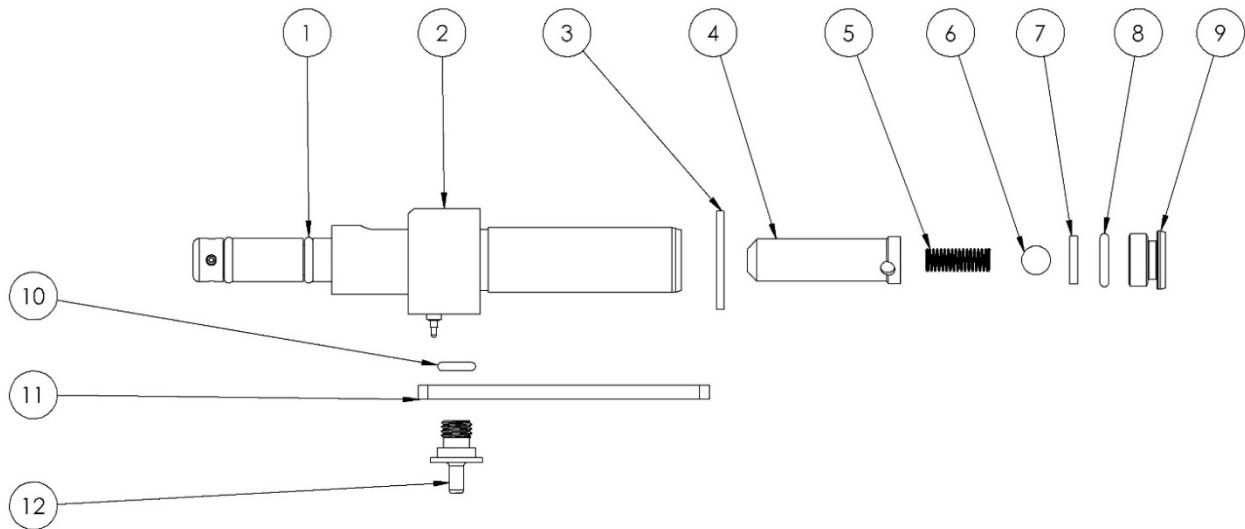

Figure 2: Charge Chamber Assembly
- Remove the double seal cap (Figure 2, #1) using a thick blade screwdriver.
- Use a small pick or screwdriver to remove the 005 O-ring (Figure 2, #2) and double seal spacer (Figure 2, #3). Inspect the O-ring and replace if any damage/wear is present.
- Use a small pick or screwdriver to remove the 007 O-ring (Figure 2, #4). Inspect the O-ring and replace if any damage/wear is present.
- Invert the magazine and allow the double seal valve (Figure 2, #5) and compression spring (Figure 2, #6) to drop free. Inspect the spring and replace if any damage/wear is present.
If a leak is experienced when the magazine is inserted into the weapon, and the leak is not coming from the magazine, then items #7, #8, and #10 in Figure 2 may be leaking and in need of replacing. If it is determined that a leak is occurring within the recoil kit, follow the steps below. If applicable, remove the recoil kit from the weapon prior to proceeding.
- Use a 5/32 Allen Wrench to remove the Charge Chamber Cap (Figure 2, #9).
- Use a small pick to remove the 011 Charge Chamber End Cap O-ring (Figure 2, #8) and the Charge Chamber Seal (Figure 2, #7). Inspect both items and replace if any damage/wear is present.
Insert (Figure 2, #6, #5, #4) to drop free. Replace the compression spring if any wear or damage is present.
- Place (in this order) the Brass Insert, the Compression Spring, and the Ball Bearing back inside the Charge Chamber (Figure 2, #2).
Reassemble the weapon and test. If a leak is still experienced, use the following steps to replace item #10 in Figure 2.
- Use the Nipple Tool to remove the Charge Chamber Nipple (Figure 2, #12).
- Remove the Retaining Plate (Figure 2, #11) and use a small pick to remove the 008 Nipple O-ring (Figure 2, #10). Replace the O-ring if any damage or wear is present.